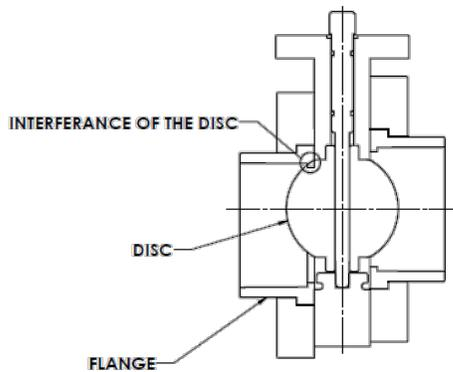

Figure 2
3. Care must be used during installation to ensure that the pipes or flanges are properly aligned so there is no interference with the valve disc. Misalignment as shown in figure 2 will result in damage to the valve.